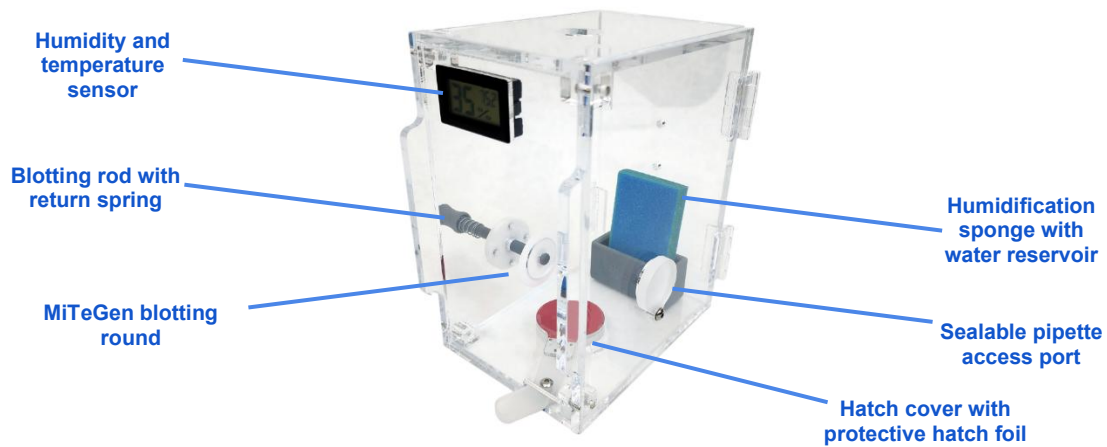

Figure 2: Overview schematics of passive enclosure
appropriate port on the enclosure side door (please refer to Figure 2) with the rod's female end sticking into the enclosure. Open the door and slide the blotting round supports, blotting round, and cap onto the end of the blotting rod (see Figure 9 below). Close the door.
STEP 7. Standard model only: Wet the blue humidification sponge with **WARM** water, and fill $\frac{3}{4}$ of the water reservoir with **WARM** water. Place the reservoir with the sponge in it to the back of the enclosure and close both doors. Slide the hatch cover to the closed position if it is not there already. The enclosure should now look like Figure 2 above. A humidity reading of >85% RH should occur within a few minutes of all doors and hatches being closed. **Note:** None of the enclosure's doors or hatches should be opened after this point unless expressly mentioned in the proceeding instructions. Failure to ensure this can result in large, sudden drops in enclosure humidity, which can lead to excess sample drying and changes to sample concentration. As condensation on the humidity sensor in the saturated enclosure can cause a delay in the detection of sudden humidity decreases, a high humidity reading, in this situation, does not guarantee